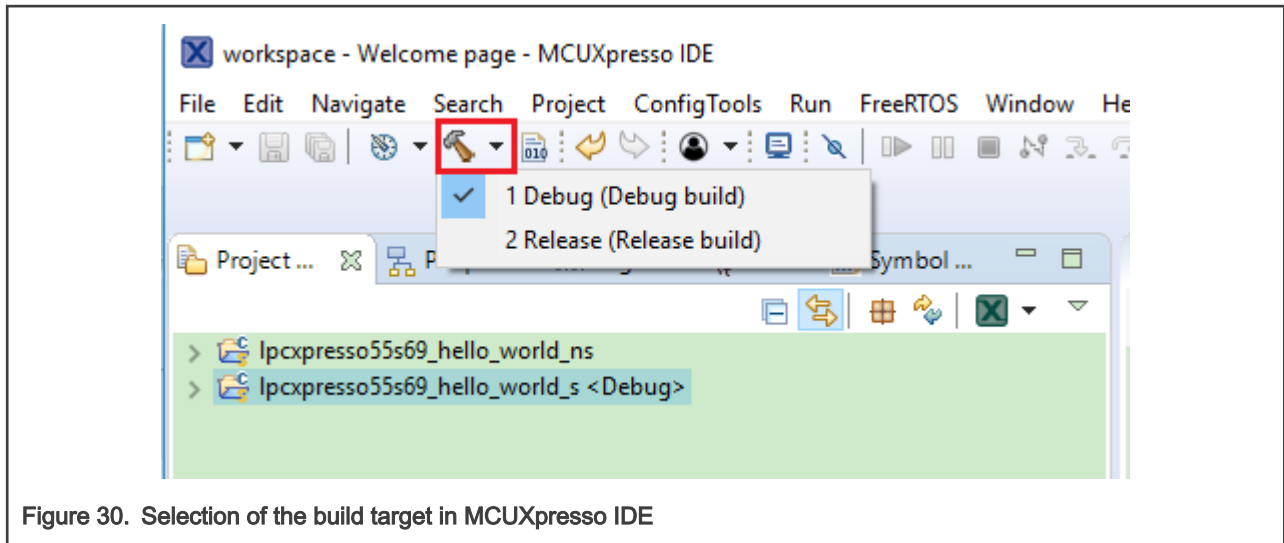

Figure 30. Selection of the build target in MCUXpresso IDE
- Now, two projects should be imported into the workspace. To start building the TrustZone application, highlight the `lpcpresso55s69_hello_world_s` project (TrustZone master project) in the Project Explorer. Then, choose the appropriate build target, **Debug** or **Release**, by clicking the downward facing arrow next to the hammer icon, as shown in Figure 30. For this example, select the **Debug** target.